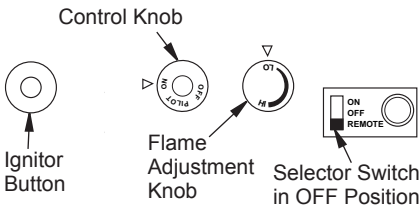

Figure 30 - Control Knob and Ignitor Button Location
4. Press in and turn control knob clockwise  to the OFF position (see Figure 30, page 23).
- Wait five (5) minutes to clear out any gas. Then smell for gas, including near the floor. If you smell gas, STOP! Follow "B" in the safety information, column 1, page 22. If you don't smell gas, go to the next step.
- Press in and turn control knob counterclockwise  to the PILOT position. Press in control knob for five (5) seconds (see Figure 30).